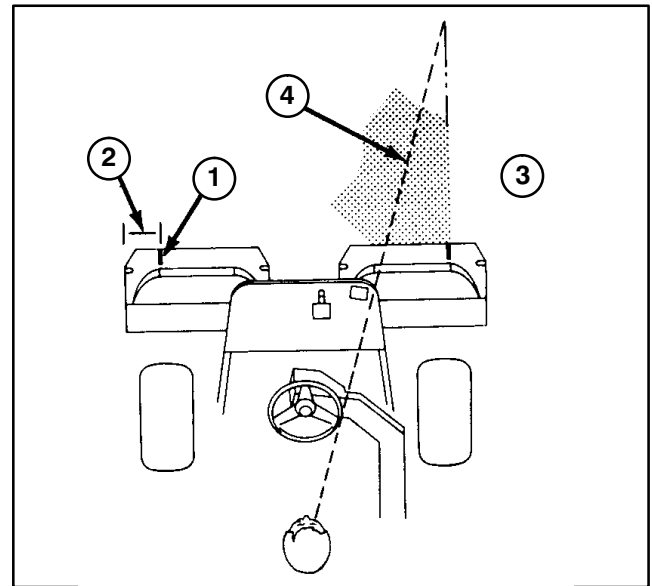

Figure 27
2. Either place a strip of white tape or paint a line onto each basket paralleling the outer edge of each basket (Fig. 27)